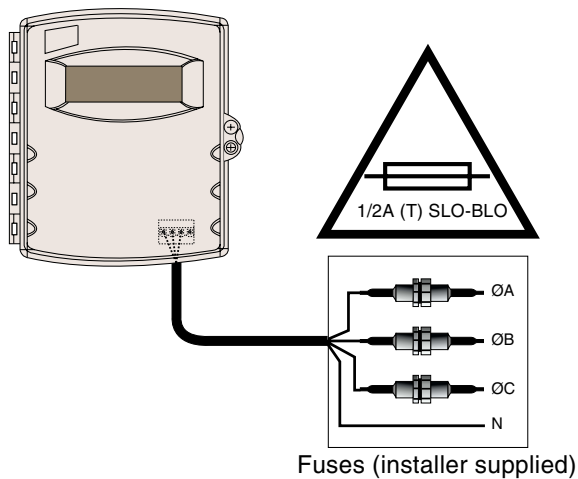

Figure 6: Fuse installation
5. Mount fuse block and fuses (Figure 6).